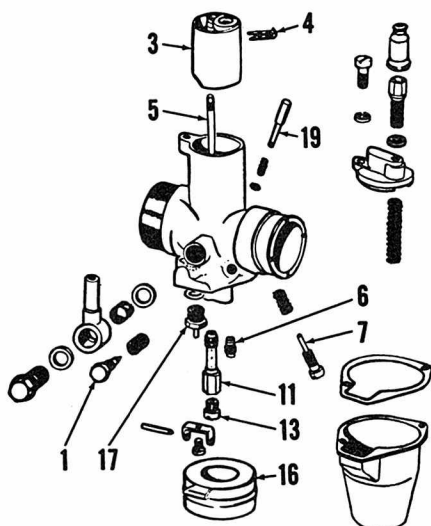

Fig. M1—View of IRZ single needle carburetor. Refer to Fig. M2 for legend.
**CARBURETOR.** Refer to Figs. M1 and M2 for views of IRZ and Amal carburetors. Idle mixture is adjusted at needle (1) and idle speed at screw (7). Normal setting for idle mixture needle is 1-2 turns open. Clip (4) should be installed in middle groove of needle (5). Refer to the following carburetor specifications.